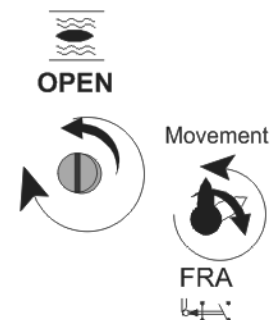

Figure 10.3-3
- If, by accident, it has been carried on turning past the tripping of the FRA microswitch, turn spindle **A** in the opposite direction (clockwise) until the **B** spindle returns to vertical (Figure 10.3-3).